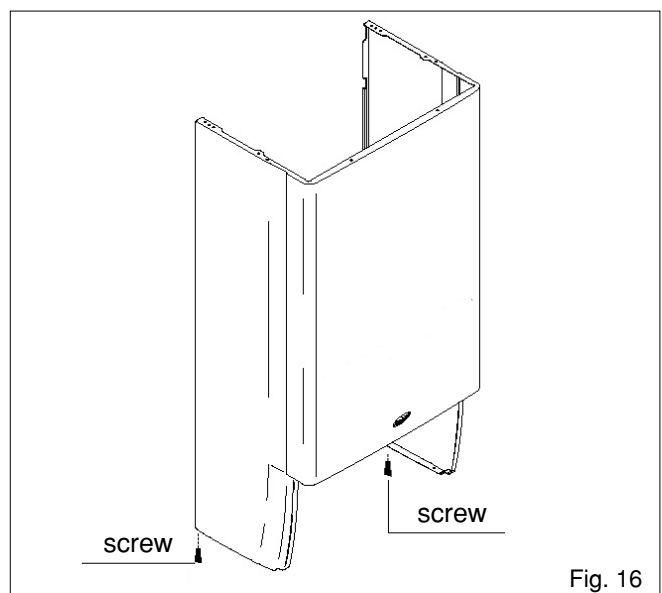

Fig. 16
- locate and remove the 2 screws that secure the casing to the back frame of the boiler (fig. 16)